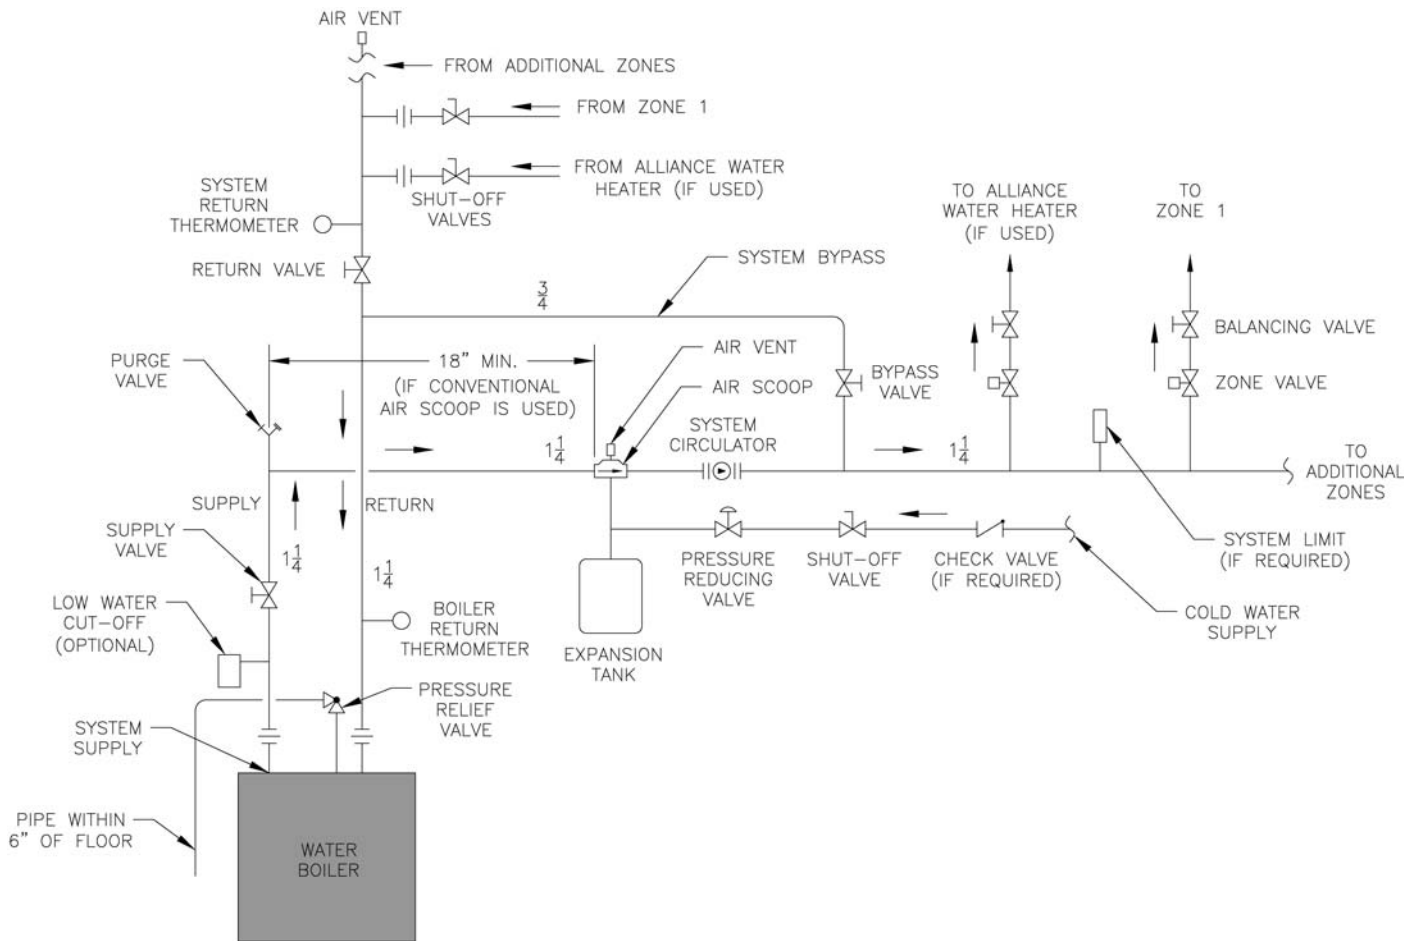

Figure 4: Recommended Water Piping for Zone Valve Zoned Heating Systems
- B. **Connect system supply and return piping** to boiler. See Figure 4. Also consult I=B=R Installation and Piping Guides. Maintain a clearance between hot water piping and combustible construction as required by local codes. In the absence of local codes, 1/2" clearance should be used. Note that a system circulator is required and is not supplied with the Minuteman II.
C. Install Safety Relief Valve. See Figure 4. Safety Relief Valve must be installed with spindle in vertical position.
Install pipe tee between circulator and boiler return along with second tee in supply piping as shown in Figure 4. Bypass should be same size as the supply and return lines with valves located in bypass and supply outlet as illustrated in Figure 4 in order to regulate water flow to maintain higher boiler water temperatures.